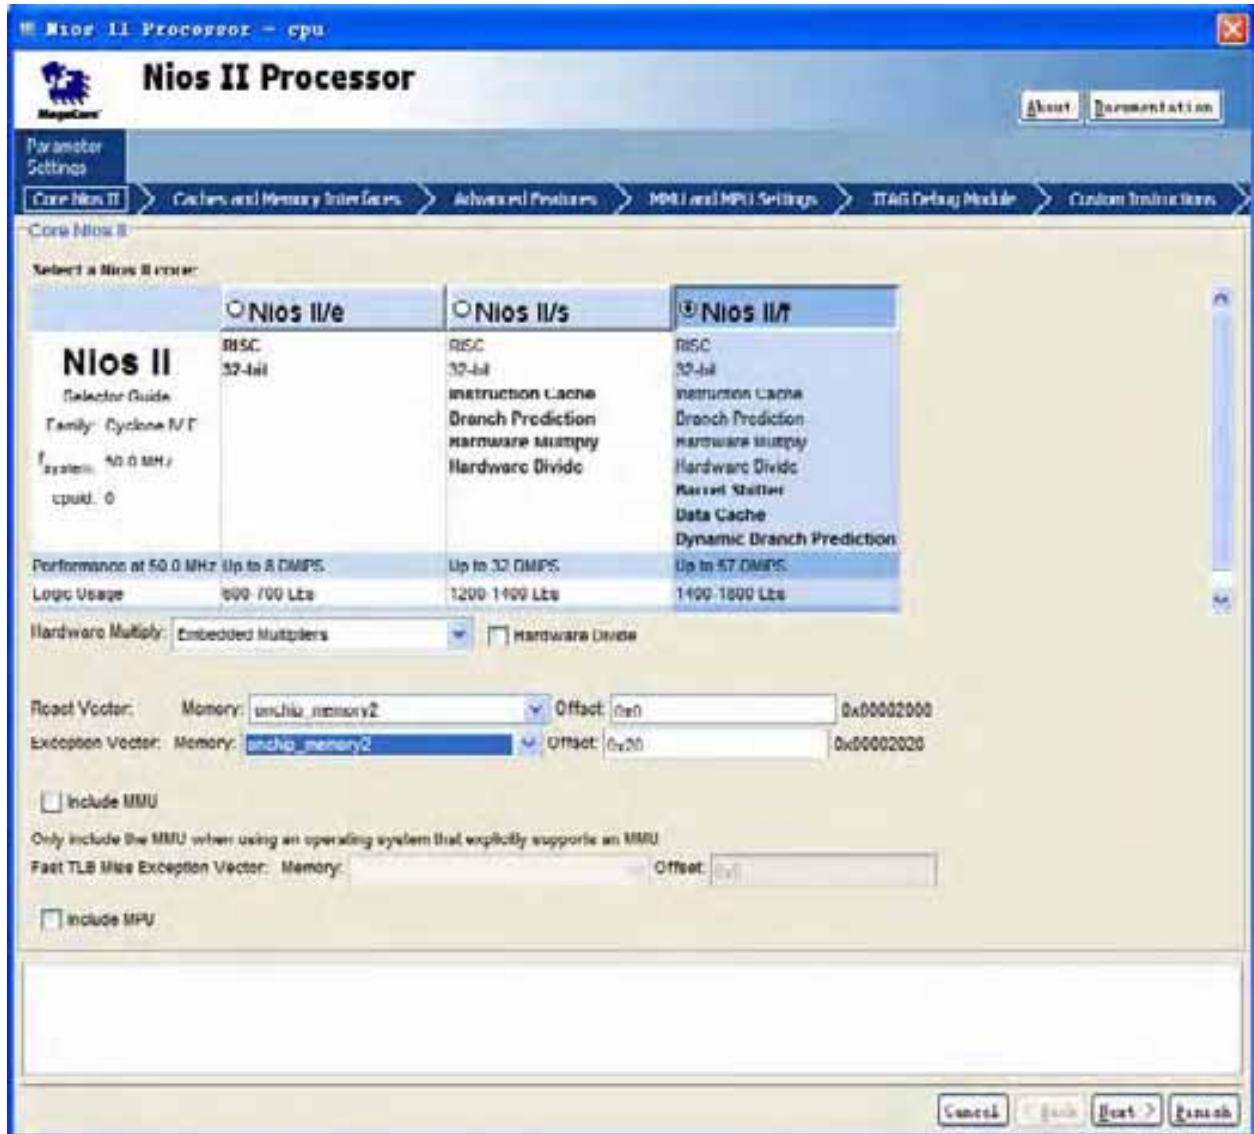
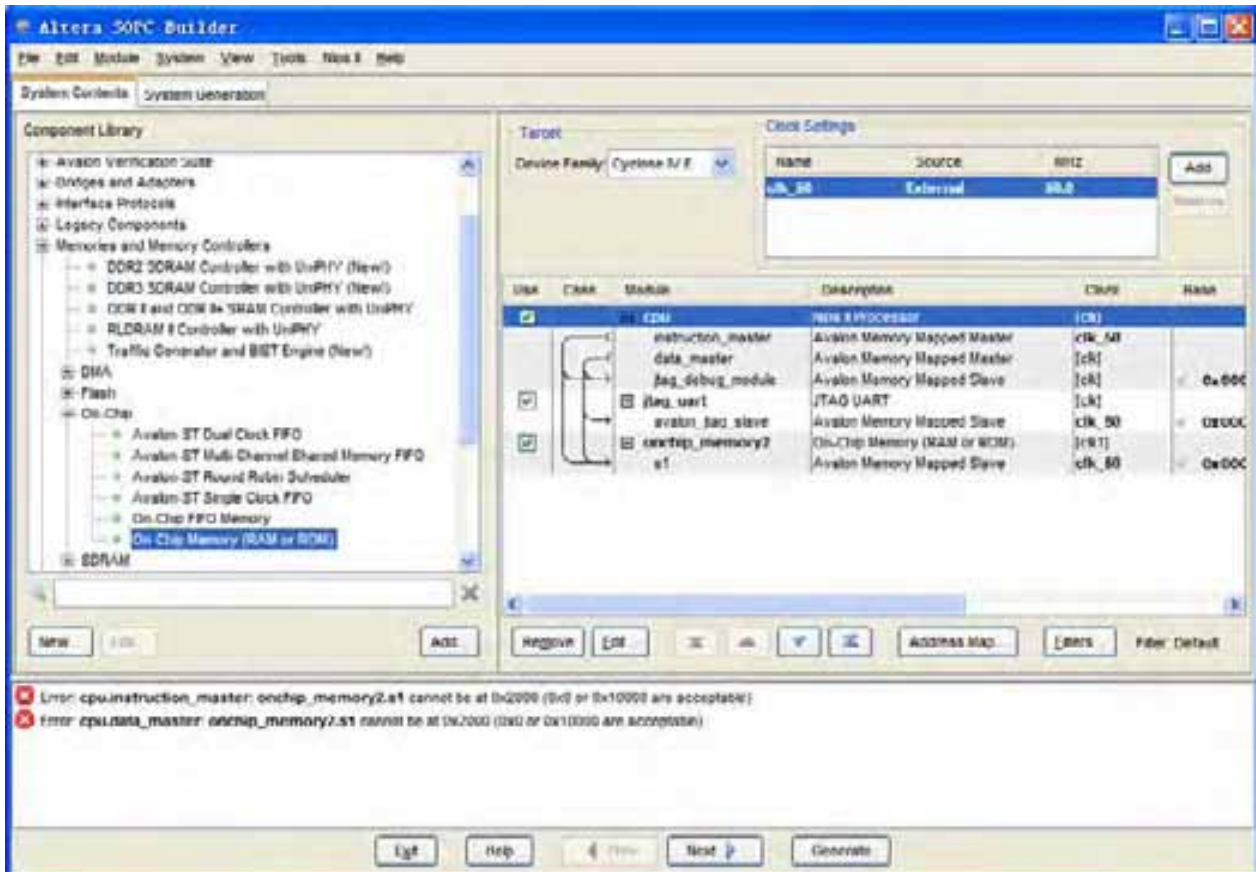

Figure 7-28 Update CPU settings
Figure 7-29 Updated CPU settings
18. Right click on the **cpu** component table and select **Edit...** from the list. Update the Reset Vector and Exception Vector as shown in Figure 7-28. Then, click **Finish** to return to the window as shown Figure 7-29.